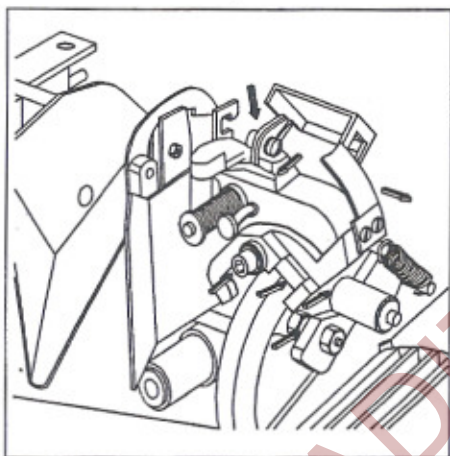

Fig. 04
- 4 Oil the hinge points and the rolls of the throw-in mechanism and slide-off mechanism (fig. 04-lubricating points)
- 5 Oil the roll of the cord clamp (fig. 04-lubricating points).
- 6 Oil the knotting roll and the hinge point of the knotting jaw (fig. 04-lubricating points).